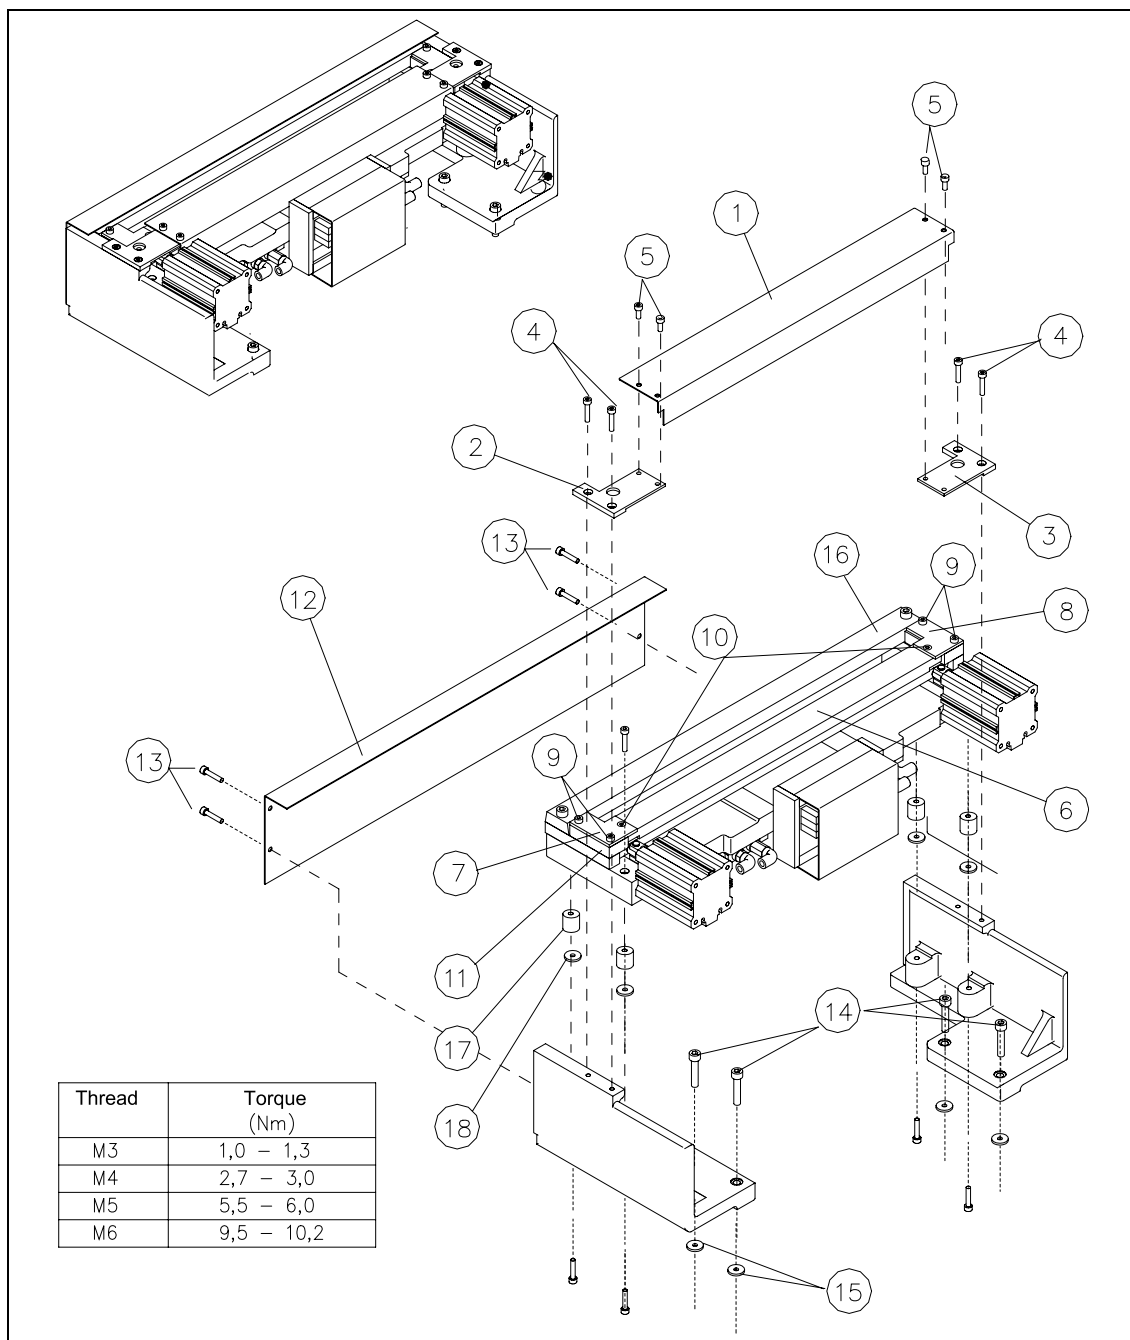

Fig. 5.4.2 Overview: Removing and Installing the Cover Plate and the Tape Deflector
One of the new features of cutter version 04 is a tape deflector which is installed over the movable blade (see Fig. 5.4.2 -> 6).
Tighten the screws to the correct torque -> see Table, Fig. 5.4.2.
Key to Fig. 5.4.2:
For this reason, the deflector plate, the cover and the protective sheet (see Fig. 5.4.2) must be left mounted in place.
- If necessary, slide the cutter in the slots parallel to the direction of the PCB conveyor until you reach the TARGET distance 1.0 to 1.5 mm (see Fig. 5.4.2 -> Detail).
-> Tighten the screws to the correct torque -> see Table, Fig. 5.4.2.